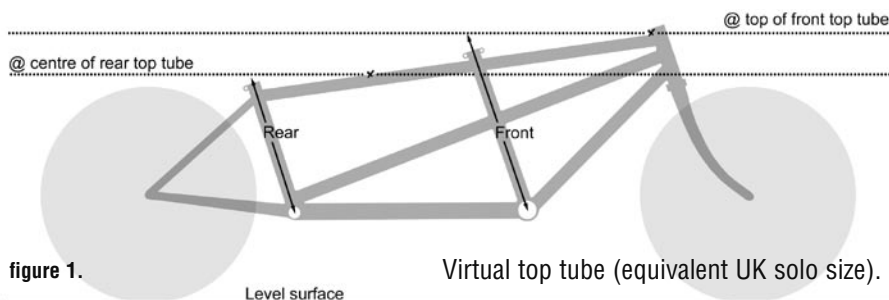

figure 1.
3. If you want dimensions... we prefer to use the "equivalent UK solo size", as it more accurately conveys the actual size of the tandem. (figure 1.)